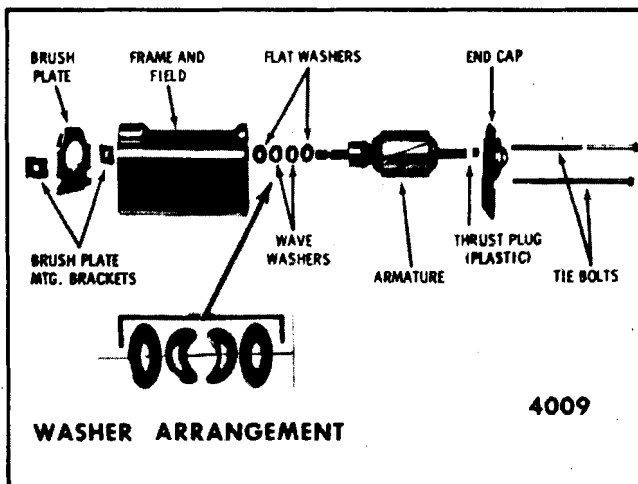

Fig. 2-15-Wiper Motor-Exploded View
2. Remove motor tie bolts (Fig. 2-15).
7. Remove end play washers from commutator end of armature shaft. When reassembling armature in wiper, install washers as shown in Fig. 2-15.